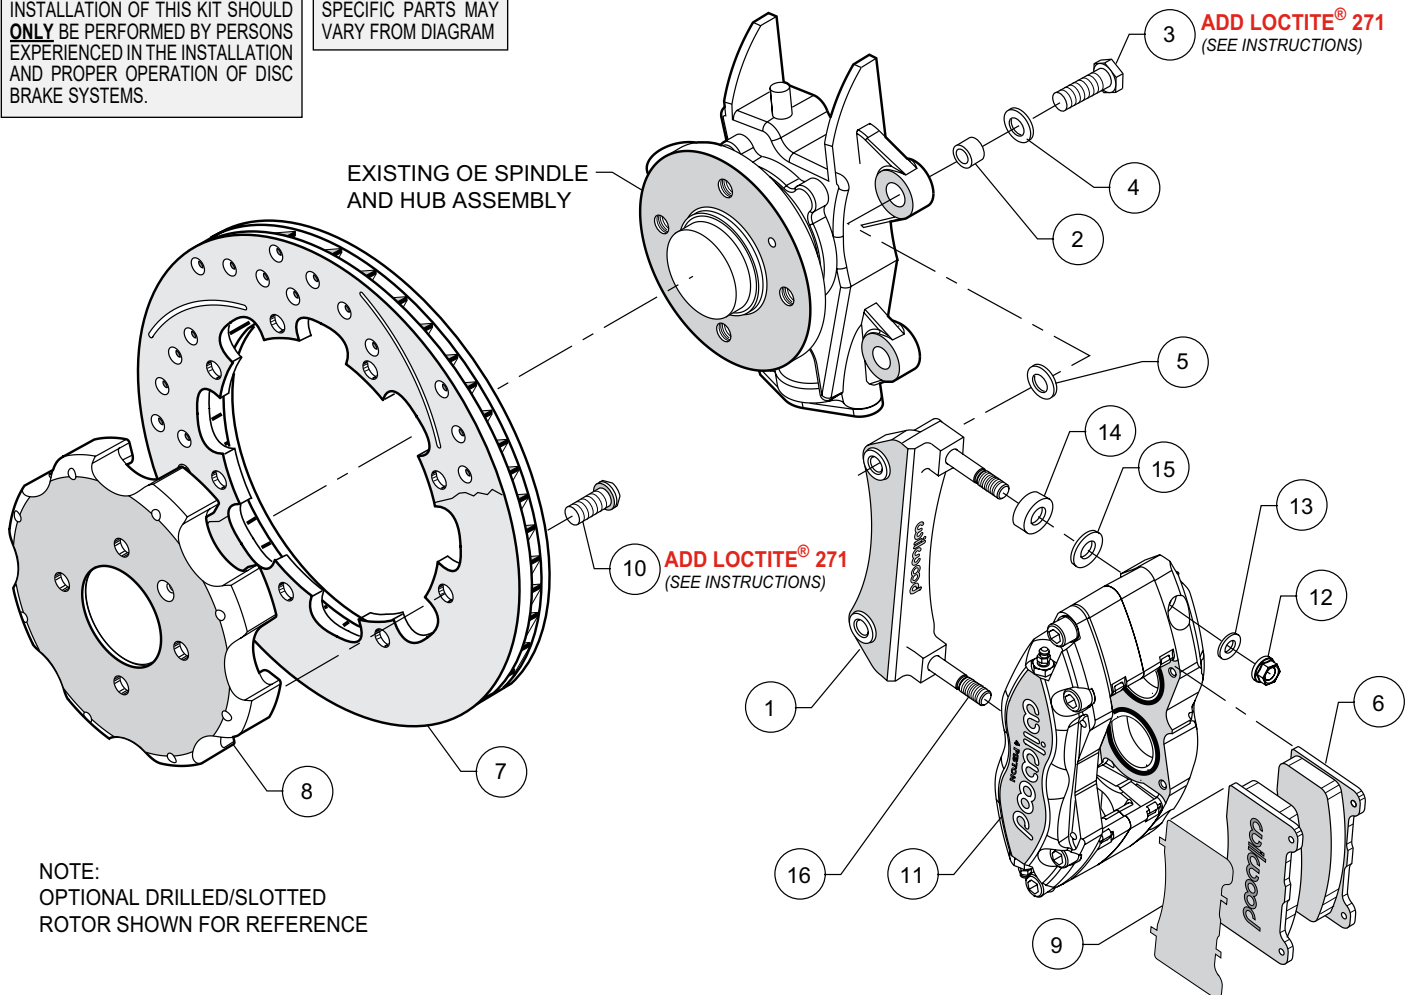

Figure 1. Typical Installation Configuration
- Insert one sleeve (2) each into the holes on the top and bottom of the spindle “ears” where the OEM caliper bracket was removed. The caliper mounting bracket assembly (1) should be installed first with clean, dry threads on the mounting bolts. Install the bracket from the rear side of the spindle by sliding bolts (3) through flat washer (4). Place shim washer (5) between the bracket (1) and the spindle (see Figure 1). The bracket must tighten squarely against the side of the spindle body. Inspect for interference from casting irregularities, machining ridges, burrs, etc. Use one thin shim (5) between the bracket and spindle during initial trial fitting.
- With the larger I.D. side of the rotor (7) facing away from the hat (8), attach rotor (7) to hat (8) using bolts (10) as shown in Figure 1. Remove bolts one at a time, apply red *Loctite*® 271 to the bolt threads and torque to 25 ft-lb using a criss-cross pattern.
- NOTE:** *Please reference the caution statement at the beginning of the assembly instructions.* Install spacer (14) and one shim (15) over each pre-installed stud (16) on the radial mount bracket (1). Slide the caliper (11) in place over the studs and rotors and install the washer (13) and lock nut (12) to hold the caliper in place. Snug the lock nuts (12) and check that the rotor (7) is centered in the caliper (11). Add or subtract .016” shims (5) as necessary between the bracket (1) and the spindle to center the caliper (11).
- Remove the caliper quick-clip pad retainer from the caliper. Remove the protective material from the adhesive side of the anti-squeal shims (9) and place against the backing plate side of the brake pads (6) utilizing the contour of the backing plate as a guide. Secure material to backing plate by bending the four tabs over the edge of the backing plate. Slide the brake pads (6) with the shims into place. They should install easily without interference. Check that the outside radius of the brake pad is aligned with the outside diameter radius of the rotor face. Add or subtract shims (15) between the caliper and mount bracket to gain the proper alignment. Reinstall the quick-clip pad retainer.
- Once all clearances have been checked, remove the wheel, caliper, hat, and rotor from the spindle and hub. Secure the caliper mounting bracket (1) to the spindle with bolt (3) using red *Loctite*® 271. Torque the bolts to 60 ft-lbs. Reinstall the hat and rotor assembly and again use several wheel bolts to hold it in place. Reinstall the caliper and torque the caliper nuts (12) to 30 ft-lb.